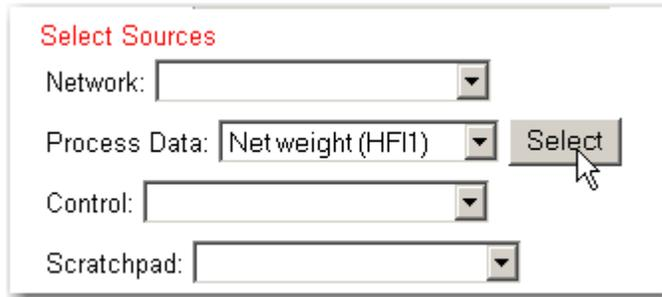

FIG. 343 PROCESS DATA/SELECTING GROSS WEIGHT CHANNEL 1
- Step 4. Click on the Process Data pull down menu. (See Fig. 343)